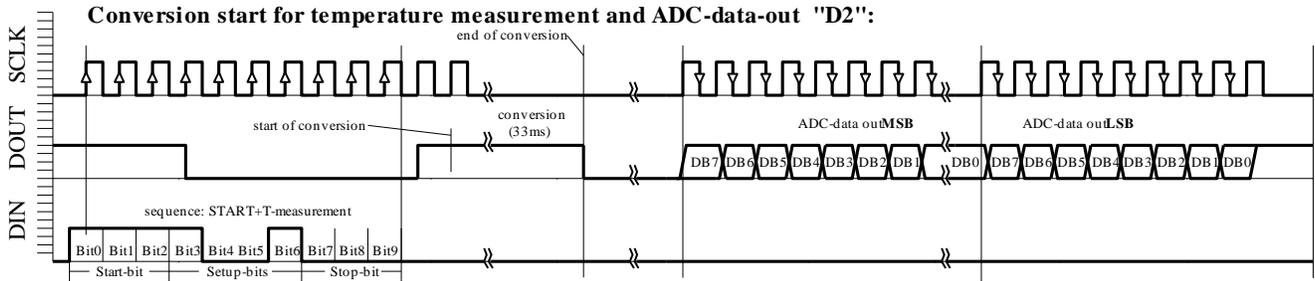

Fig. 6b: D2 ACQUISITION sequence
- Conversion start for temperature measurement and ADC-data-out “D2” (Figure 6b)